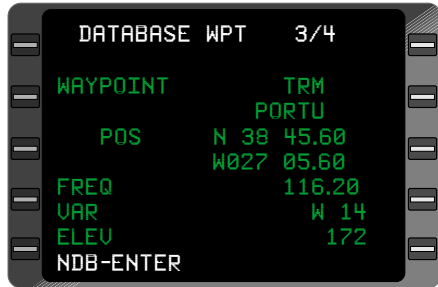

Figure 3-15
2. **PRV** or **NXT** Key - DEPRESS until desired country name is displayed. (Figure 3-15)